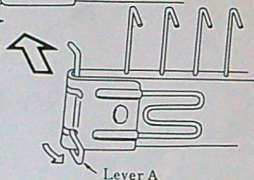

Fig. 10
- 2) Turn securing lever A at both ends to face you. (See Fig.10)